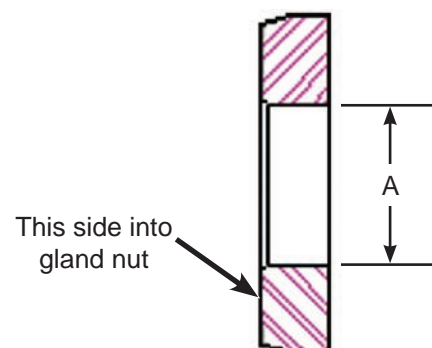

Figure 56: Guide Bushing Check (40K Only).
11. Remove the O-ring (Figure 56) from the gland nut.
2. On 40K units, measure the diameter of the guide bushing (Figure 56, A). If the diameter exceeds the Dimension A specification listed in the "40K Guide Bushing Replacement Table" below, replace the bushing. If the bushing shows scoring or if the edge is chipped, replace the bushing.
1. Install a new O-ring (Figure 56) onto the gland nut.